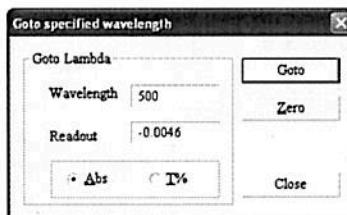

Fig. 4-1
1. Click  on the toolbar, appears Goto specified wavelength form (Fig. 4-1).